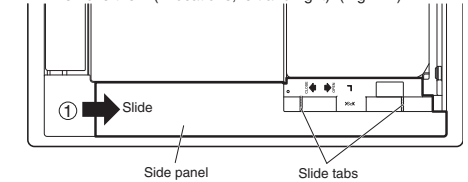

Fig. 7-2
- Slide the side panels in the direction of the arrow ① to remove them (2 locations, left and right). (Fig. 7-2)